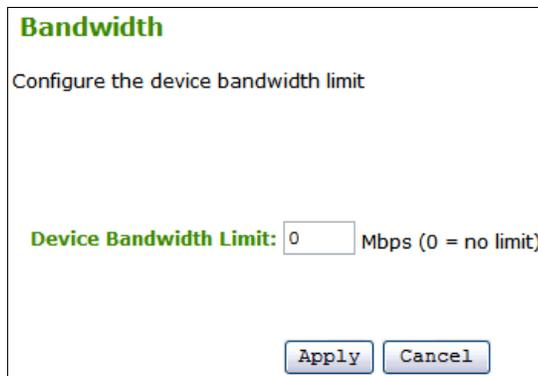

Figure 6-36 The Bandwidth option on the Web interface of the HC10 and CP20
The Bandwidth option allows you to set the bandwidth limits for the device (Figure 6-36). To change the bandwidth limit, either enter a number for the maximum Mbps or enter zero (0) for no limit.